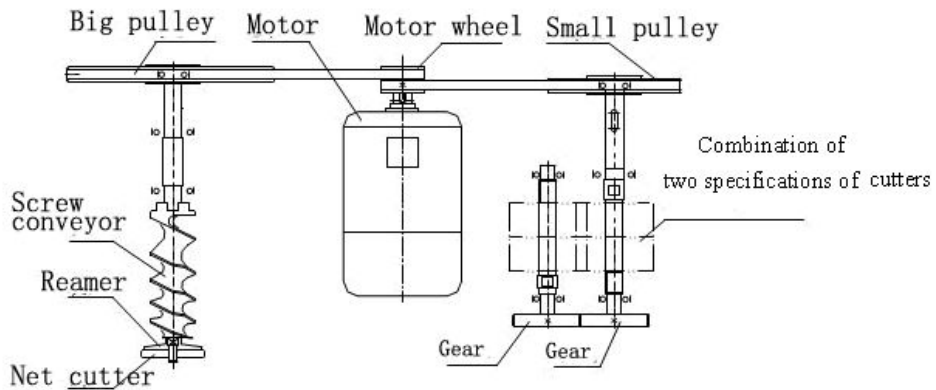

Figure 2
2.3 Transmission principle (Figure.2)